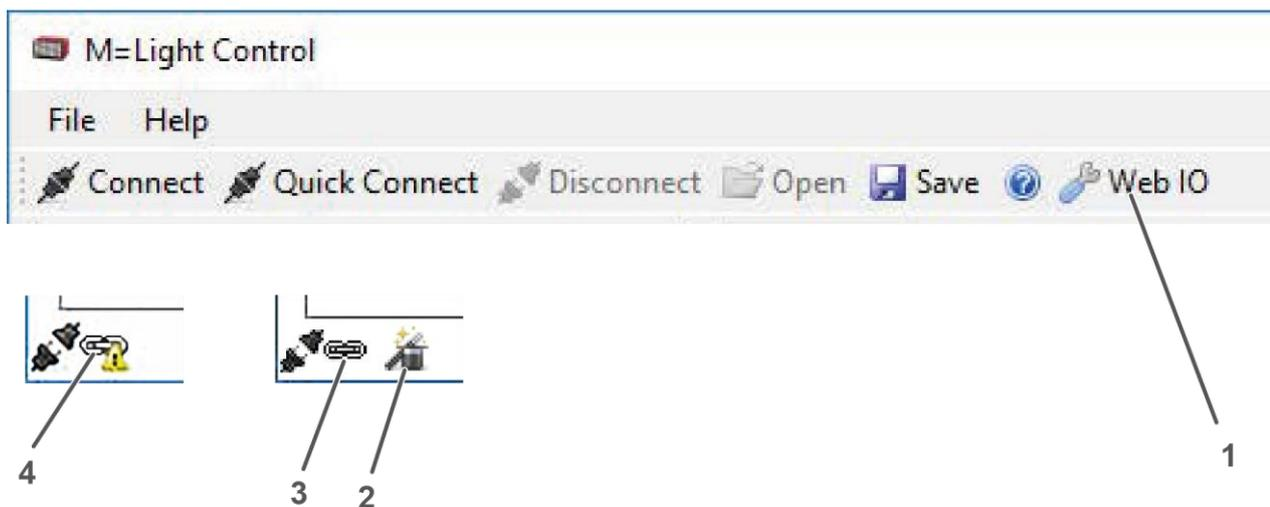

Figure 33: Web IO Status connected and Status not Connected
- Press the Web IO symbol (Figure 33, Page 38, Pos. 1).